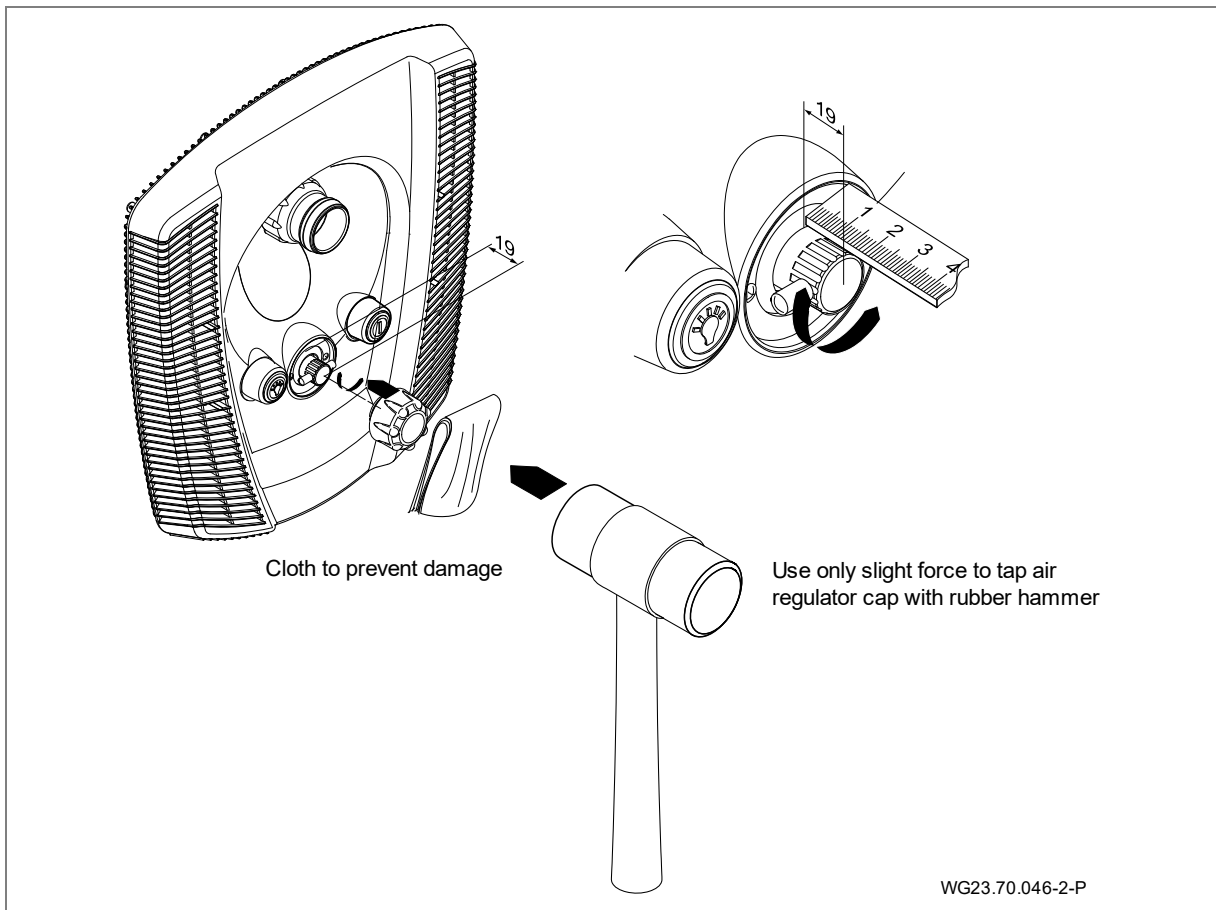

Fig. 20
8. Secure the cover for the air regulator. (Fig. 20)
9. Connect the jet pump (92) to the main housing (1) on the suction and pressure sides using the half screw (98, 99, 100), the rubber bracket (79) and the corresponding clamps (75).